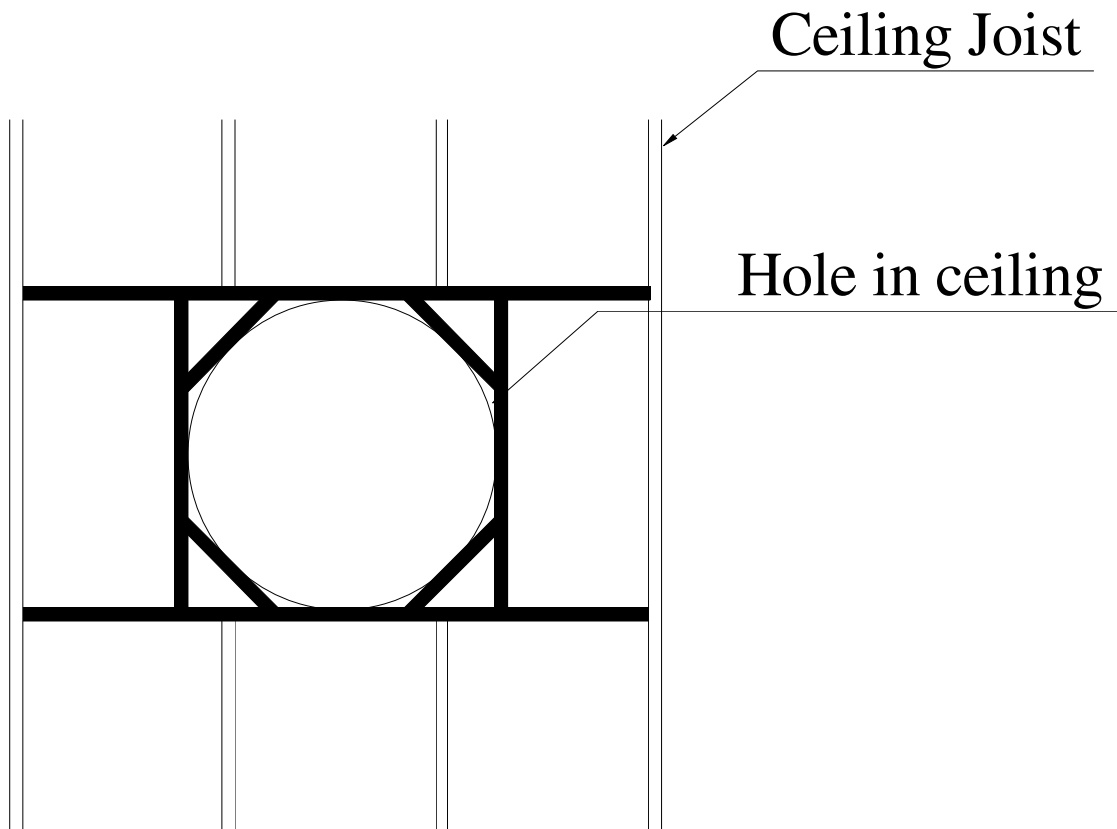

Figure 4
- iv) Add triangulation trimmers as shown and remove temporary support bearers. See Figure 4